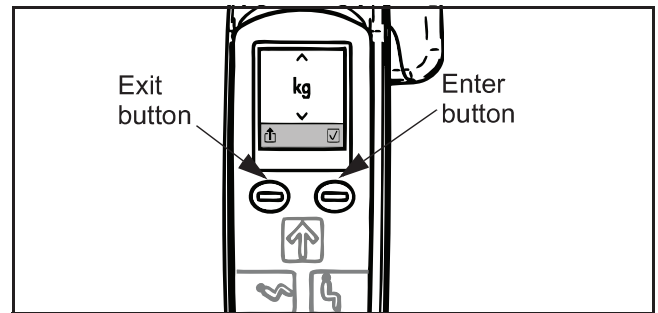

Fig. 64
- 5) Press the save button if the net weight needs to be kept in memory. Horizontal bars will appear above and below the digits on the screen to show that the save function is activated. "Save" will stay active until the save button is pressed again (see Fig. 64).